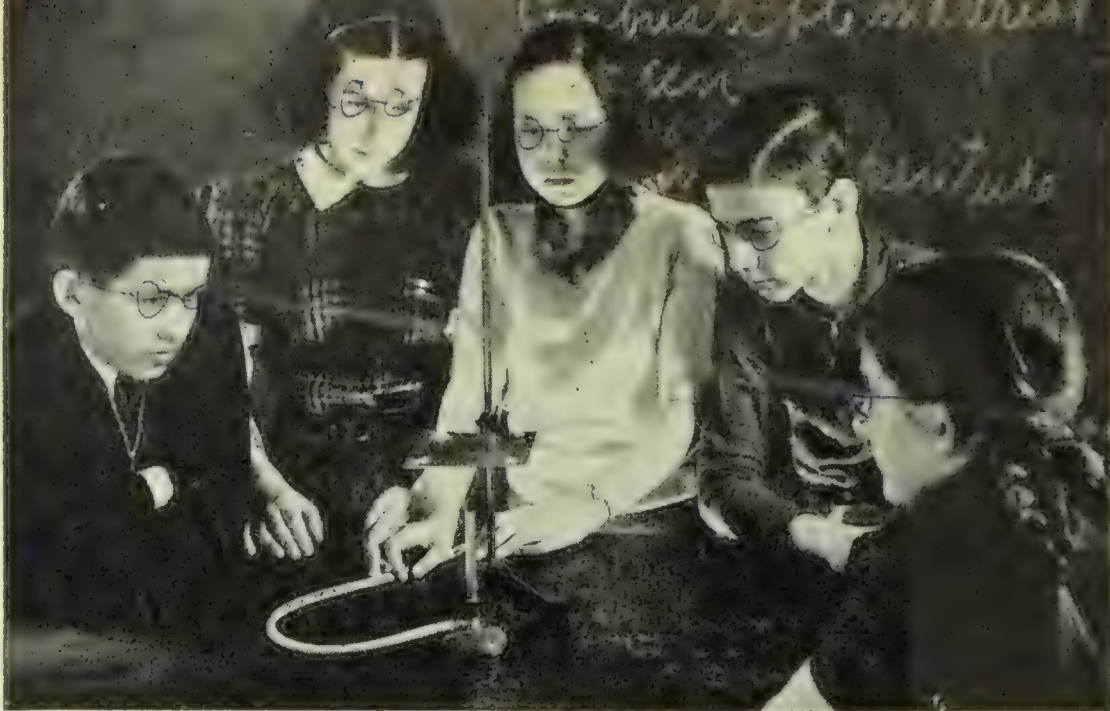

FIG. 60. Apparatus for Problem to Solve 1
*Problems to Solve.* 1. Test the kindling temperatures of sulphur, a match head, a piece of wood, and a piece of paper, as shown in Figure 60. Which has the lowest kindling temperature?